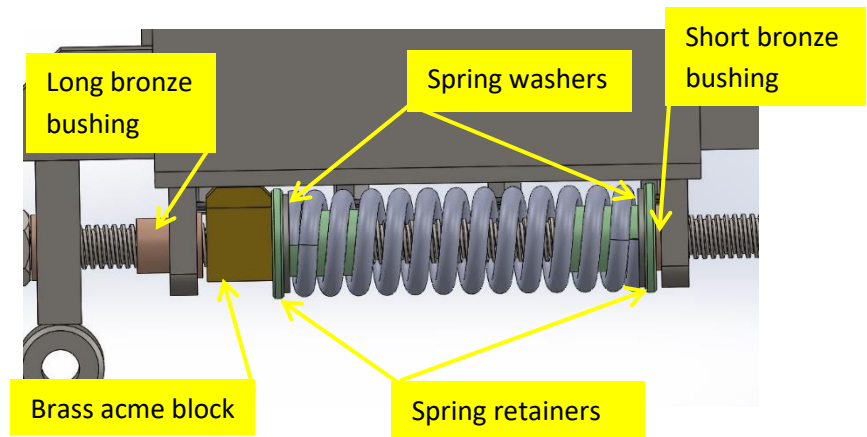

Figure 2
4. Spin the acme nut at the rear end of the **HydraWinder** to unthread the acme rod from the motor assembly and remove the rod. Before removing it, note the position of the components that are on the acme rod that make up the bottom portion of the motor assembly and set aside. **Figure 2**